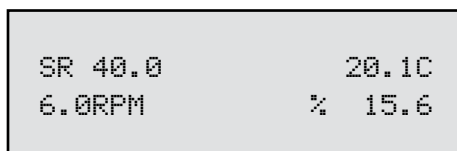

Figure II-11
The next press of the SELECT DISPLAY key would display *Shear Rate (SR)* in 1/Sec (Figure II-11).